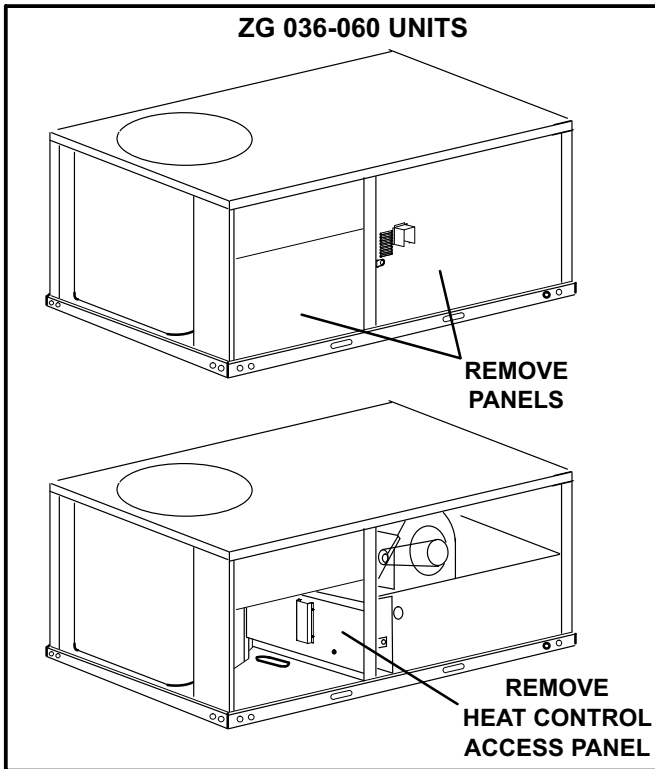

FIGURE 1
- 2- Open access panels as shown in figure 1. On LGH/KG units, remove the mullion between the heat and compressors sections.